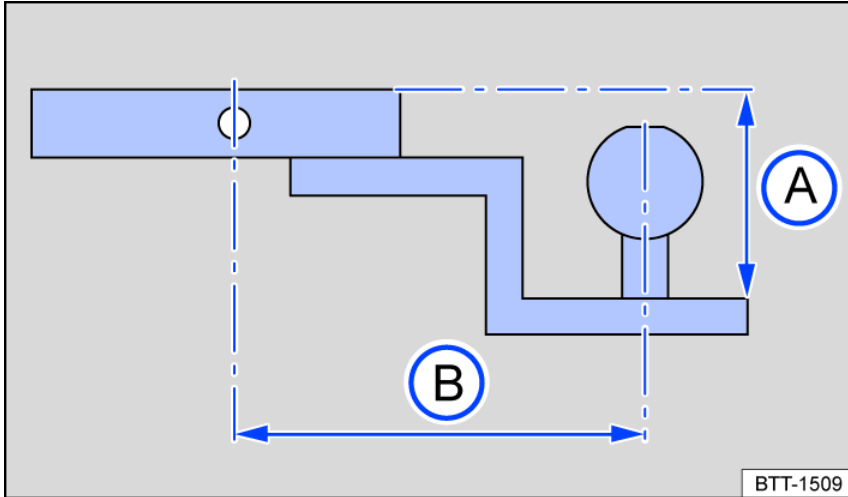

Fig. 167 Dimensions of the ball mount holder and receptacle.
The mount requires a special shape and size of ball mount holder and ball mount. This affects both the suspended height of the ball coupling fig. 167 A and the distance between the socket pin and the ball coupling fig. 167 B.
- The suspended height fig. 167 A from the top of the ball mount to the top of the neck must not exceed 50.8 mm (2 inches).
The distance between the socket pin and the ball mount fig. 167 B must not exceed 209.55 mm (8 1/4 inches) from the middle of the ball mount to the middle of the eye of the pin.